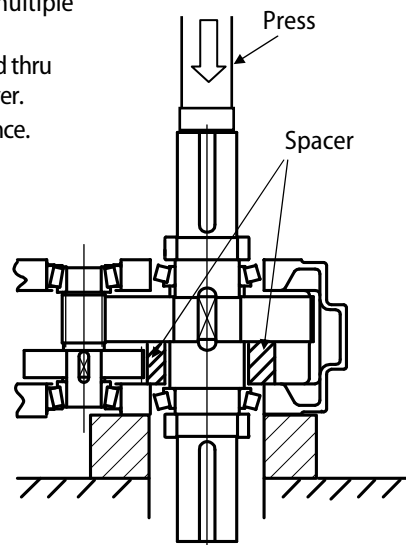

Fig. A-6 Press Direction and Spacer Block
- Set a spacer block between the inside housing and the gear selected for removal. (See Fig. A-6) (Confirm spacer and shaft orientation. The unit may need to be 'flipped' if multiple gears are removed.)
- Use a press machine against the shaft end (See Fig. A-6). When the shaft is pushed thru the gear, the gear, bearing and collar can be removed through the inspection cover.